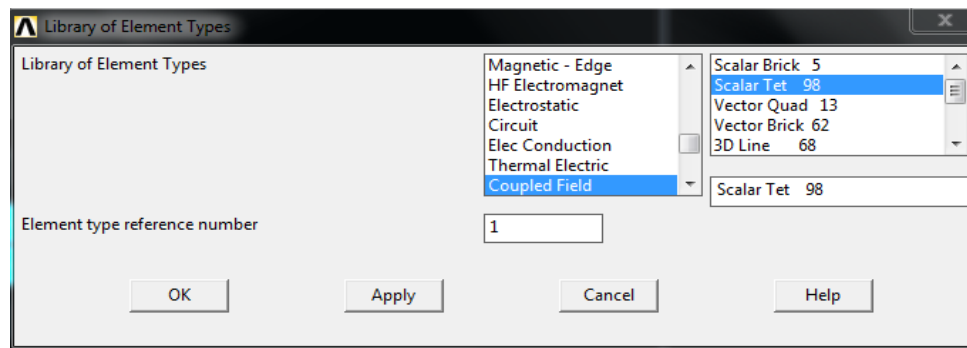

Figure 163: Library of Element Types dialog.
- ☑ Click **Add** to open the **Library of Element Types** dialog, as shown in (Figure 163).